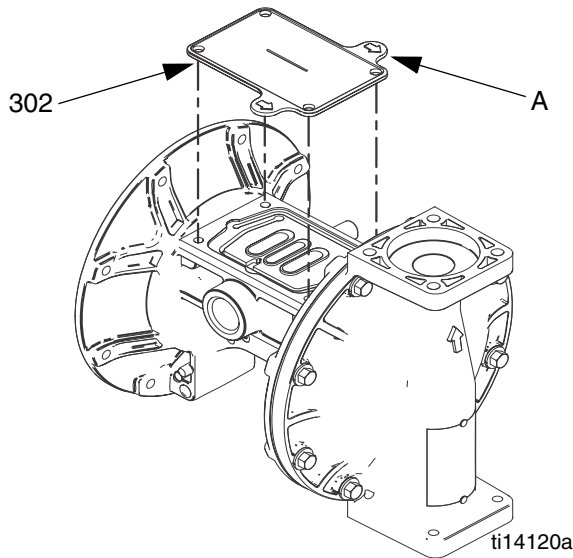

FIG. 8. Fluid cover tool
- c. Grease the shaft u-cups (106) and the length and ends of the diaphragm shaft (104). Slide the shaft into the housing.
- f. Reattach the first fluid cover (3). See **Torque Instructions**, page 15.
- a. See FIG. 8. Place the supplied tool (302) where the air valve gasket (108) normally goes. Arrows (A) must face toward the fluid cover that is already attached.